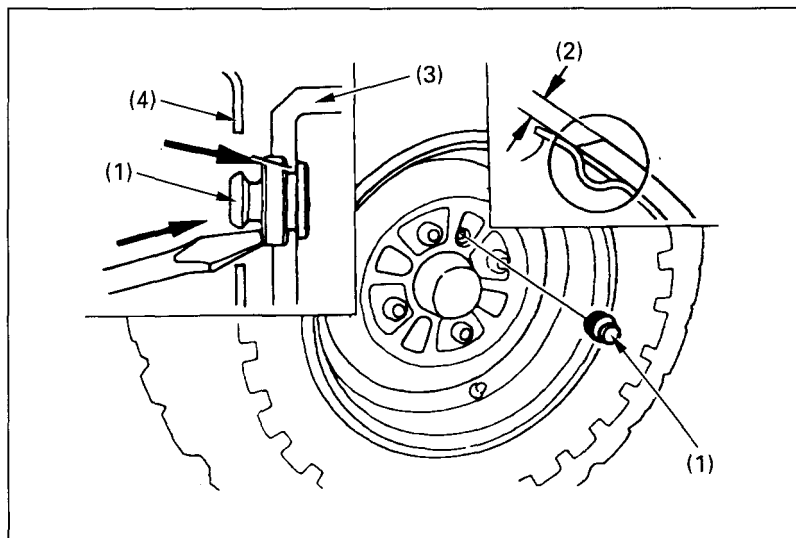
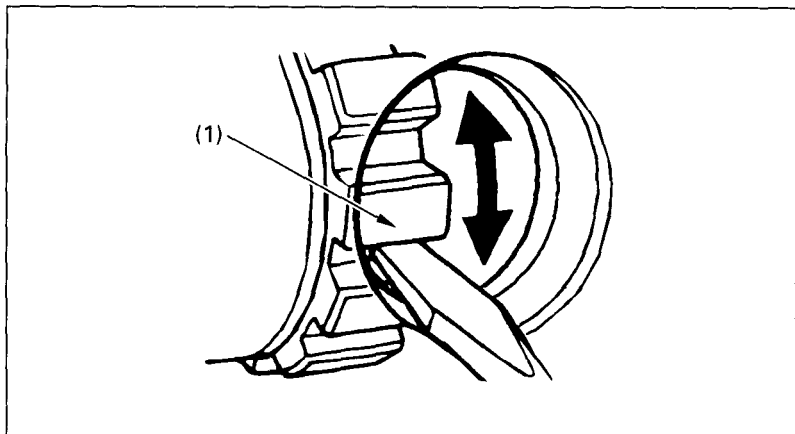

Fig. 4-23
Fig. 4-24
(1) Front brake lever
2. Remove the inspection hole plug (Fig. 4-23) and measure the lining thickness (2) on both front wheels.
3. If the brake lever free play and the brake shoe lining thicknesses are within the recommended limits, reinstall the inspection hole plugs, seating them into the inspection holes as shown in Fig. 4-23.
3. Beginning with either the left or right front wheel, remove the inspection hole plug (Fig. 4-23) and line up the hole with one of the brake adjusters (Fig. 4-24).
4. Using a screwdriver, turn the brake shoe adjuster (1) in the direction of the arrow until the front brake locks.
(1) Brake adjuster
7. Reinstall the inspection hole plug, seating it into the inspection hole as shown in Fig. 4-23.